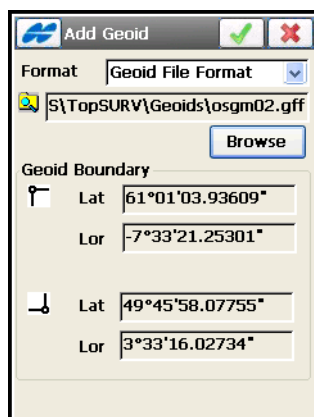

Figure 3-90. Geoid Parameters
- Edit** – opens the **Add Geoid** screen (Figure 3-90 on page 3-94) to change the geoid.
- Add** – opens the **Add Geoid** screen (Figure 3-90 on page 3-94) to add a geoid file to the list. Install the geoid file on the controller prior to adding it to the list. Some geoid files can be installed on the controller during TopSURV installation. They are provided to the user with the TopSURV installation program as ‘.gff’ files.
On the **Add Geoid** screen (Figure 3-90 on page 3-94), select a Geoid file from the controller to view the boundaries of the geoid application.